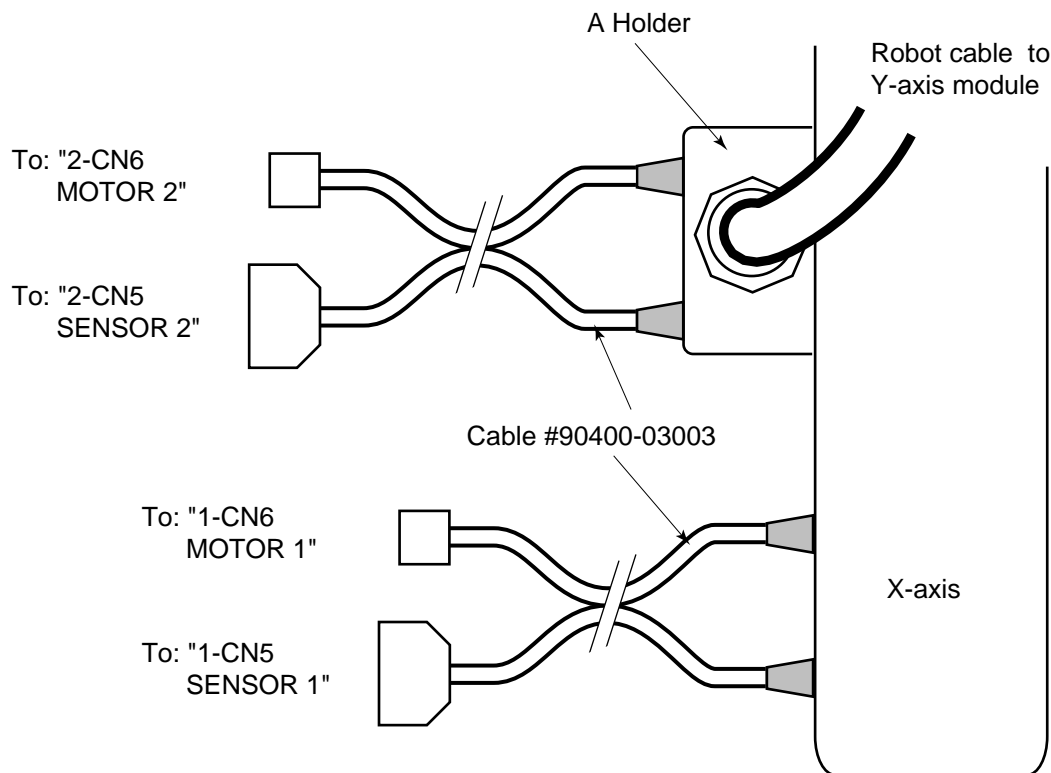

Figure 4-8. Connecting to an EXA or EXC Controller
- a. Connect the two barrel ends of the cable to the X-axis module as shown in Figure 4-8. These connectors have different pin sizes and cannot be installed incorrectly. The other ends connect to the controller connections marked “1-CN6 MOTOR 1” and “1-CN5 SENSOR 1”.
- c. Attach the A holder end of the robot cable to the side of the M module as shown in Figure 4-8 (refer to Section 4.3 for holder mounting).
- e. Connect the two barrel ends of the cable to the Y-axis module as shown in Figure 4-8. These connectors have different pin sizes and cannot be installed incorrectly. The other ends connect to the controller connections marked "2-CN6 MOTOR 2" and "2-CN5 SENSOR 2".